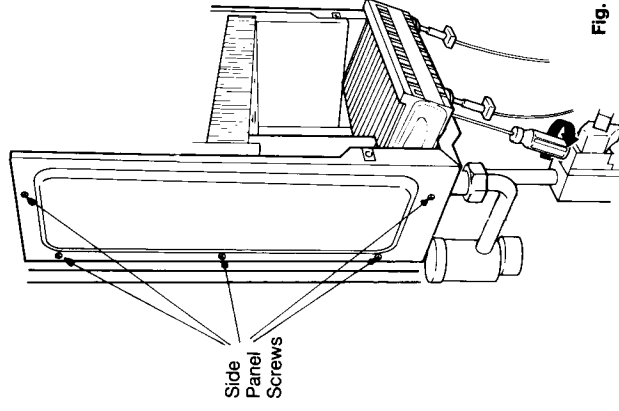

Fig. 31
Refer to fig 31
**Note:** If difficulty is found in relocating the burner securing screws, easy access can be gained by removing the two side panels (fig 31).
##### 8.8.5 Remove both side panels, 5 screws each (fig 31)